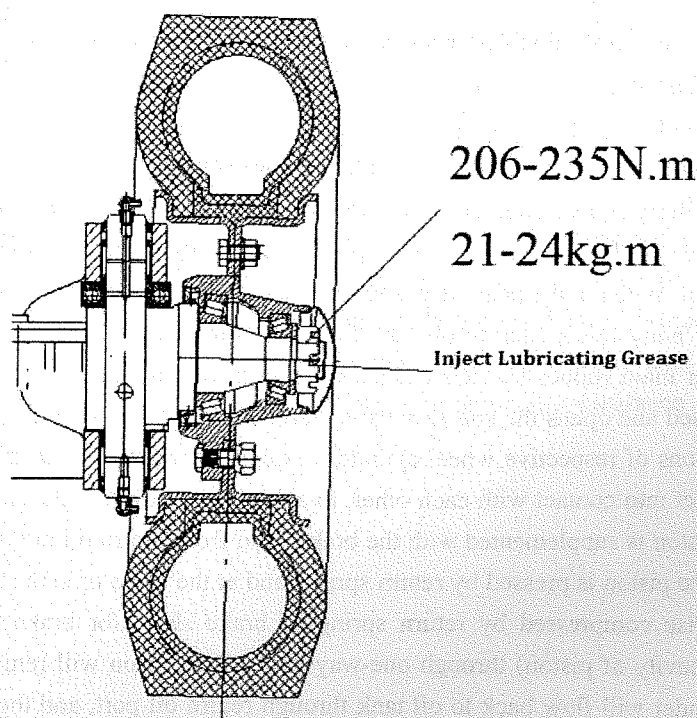

Fig 6-2 Adjustment for Pre-tightened Load
(1) As indicated in Fig 6-2, the internal cavities of internal and external bearings as well as wheel hub cover are added with lubricating grease, and at the same time some lubricating grease shall also be coated on the lip of oil seal.
(2) Fix the bearing outer ring onto the wheel hub, and mount the wheel hub onto the shaft of steering knuckle.
(3) Mount the flat washer and tighten the slot nut, and its torque is 206-235N.m (21-24kgm). Loosen the slot nut and then tighten this nut, with its torque as 9.8N.m (1kgm).
(4) Knock at the wheel hub gently using wood hammer, turn the wheel hub manually by 3-4 circles, to ensure a steady rotation, and measure the rotating torque, with its value as 2.94-7.8N.m (0.3-0.8kgm).
(7) When rotating torque is higher than the specified value, it may be returned by 1/6 circles, and then measure its rotating torque.
(8) Lock up the slot nut using cotter pin, when specified rotating torque is reached.